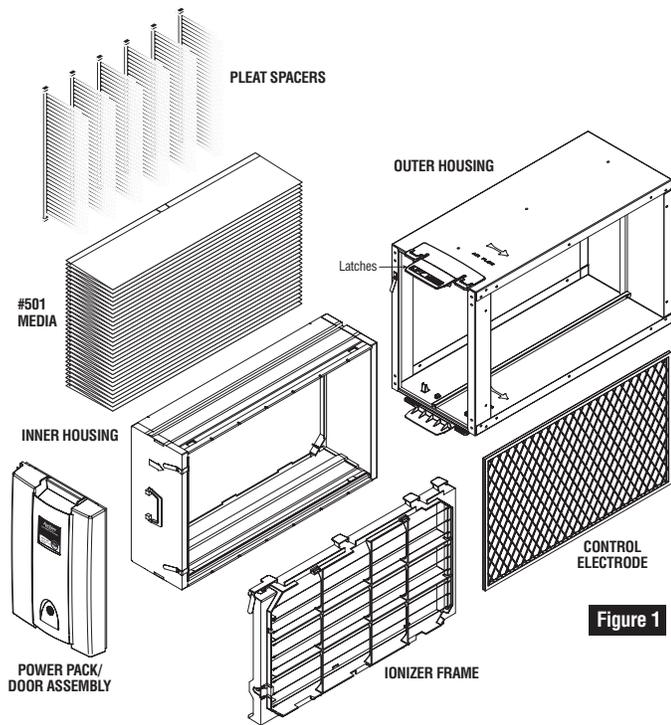

Figure 1
Step 1: Remove power pack/door assembly from air cleaner by lifting latch and pulling on recessed handle (see Figure 1 for air cleaner components).